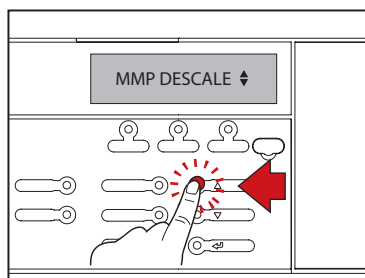

Fig.2
2. To enter the cleaning menu press the "M" of the PROMESSO logo on the home screen for 5 seconds (See Fig.2) the cleaning menu will appear on screen, press "Clean FMU" (See Fig.3).
2. Press UP until MMP DESCALE is shown on the display (See Fig.2).